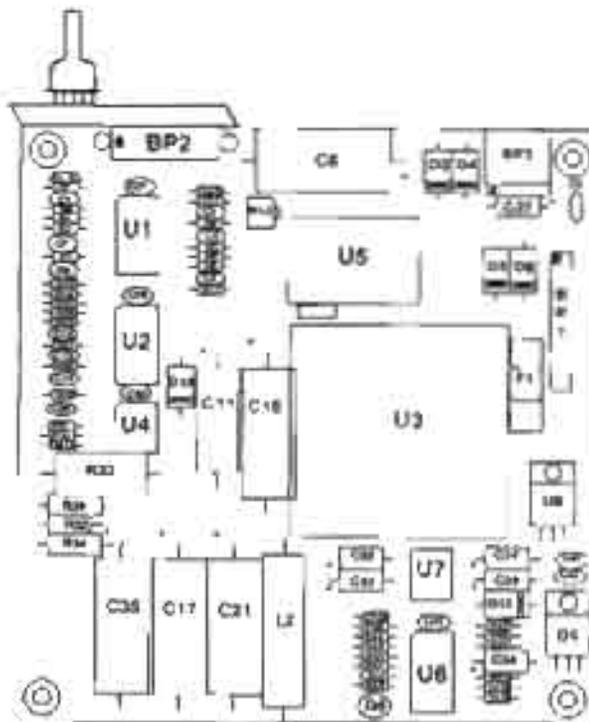

Figure 4-7. Analog/power supply PCB (model 750)
(3) Analog/power supply PCB (fig 4-7)